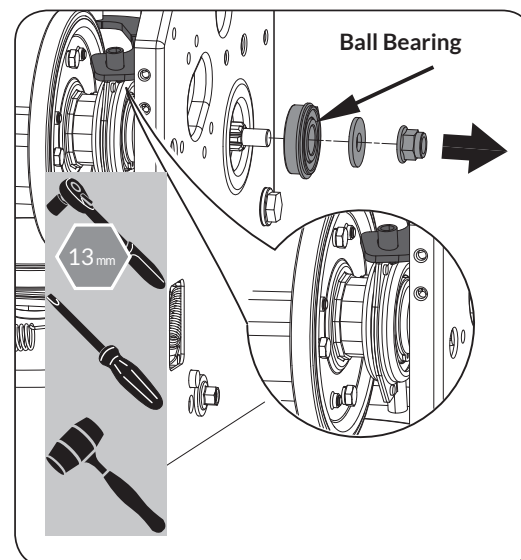

Figure 19b
5. Carefully remove the hex nut and washer which secures the hex shaft to the snow blower frame and lightly tap the shaft's end to dislodge the ball bearing from the right side of the frame. Be careful not to damage the threads on the shaft. (See **Figure 19b**)